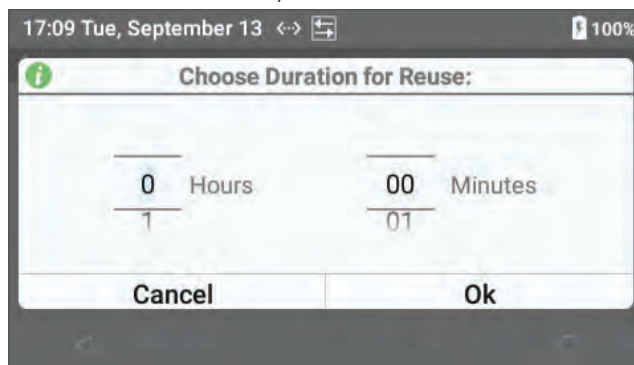

Figure 37: OID Reuse Duration
- 2 In the dialog box (*Figure 37*), scroll the **Hours** and **Minutes** to select the duration. The minimum duration is 30 minutes; maximum duration is 720 hours.